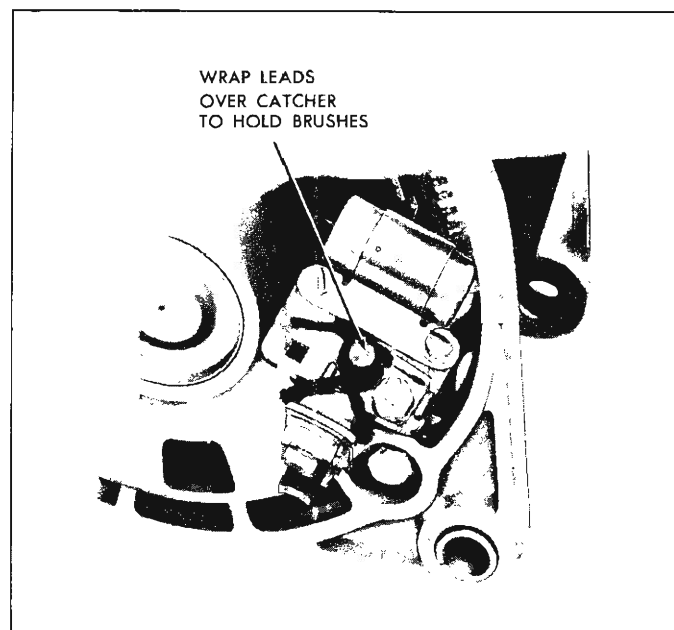

Fig. 28—Brush Replacement - 6" Delcotron
1. Remove brush holder assembly and capacitor from the slip ring end frame (fig. 28).
3. To install, push brushes up into holder and loop the brush leads over the catcher (fig. 28) to keep the brushes in the holder. Attach the assembly to the end frame and lift the brush leads of the catcher to allow brushes to ride on slip rings.